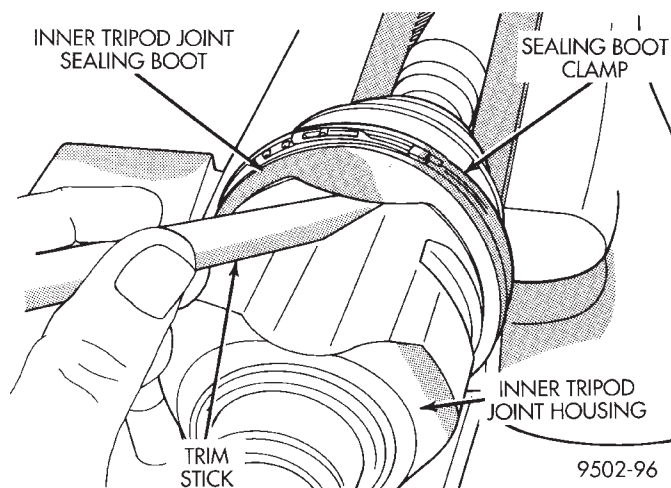

Fig. 37 Trim Stick Inserted for Venting Tripod Joint
(9) Insert a trim stick between the tripod joint and the sealing boot to vent inner tripod joint assembly (Fig. 37). **When inserting trim stick between tripod housing and sealing boot ensure trim stick is held flat and firmly against the tripod housing. If this is not done damage to the sealing boot can occur.** If inner tripod joint has a Hytrel (hard plastic) sealing boot, be sure trim stick is inserted between soft rubber insert and tripod housing not the hard plastic sealing boot and soft rubber insert.